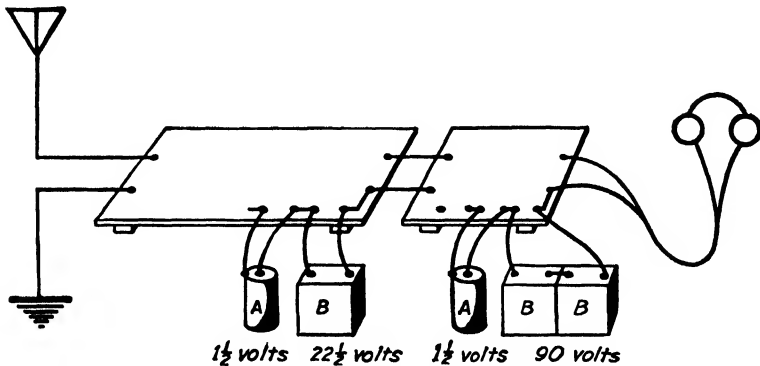

FIG. 225. *Step 4*, connect the B batteries to the two boards. Note that separate B batteries are used in this hookup.
Step 4. Connect the B battery to the amplifier (see Fig. 225). First, try 45 volts on the B battery, then add B batteries until you find a voltage that gives the best results. Listen for the loudest music that is still clear.